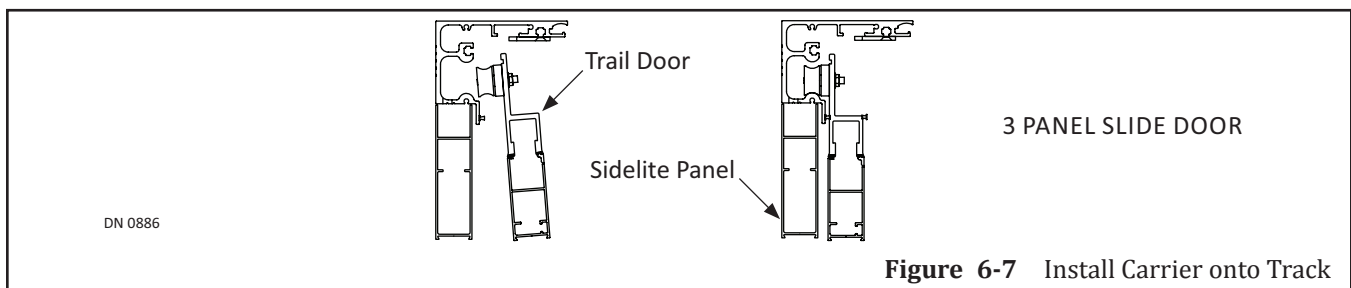

Figure 6-7 Install Carrier onto Track
4. Slightly tilt the Trail door to make it easier for the (4) Rollers to 'catch' onto the track. Please see Figure 6-7.